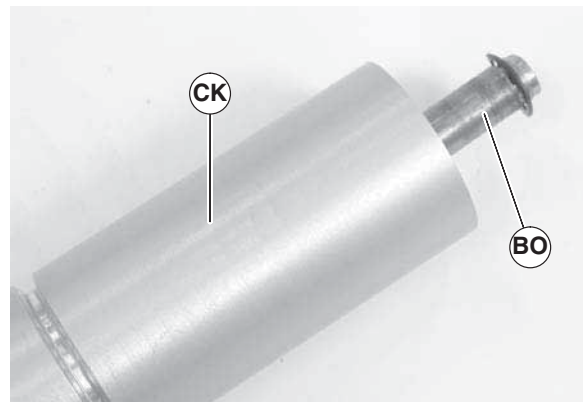

Figure 83
1. Remove screws (Figure 83, item AM) on both sides of knuckle and remove guard (AN).